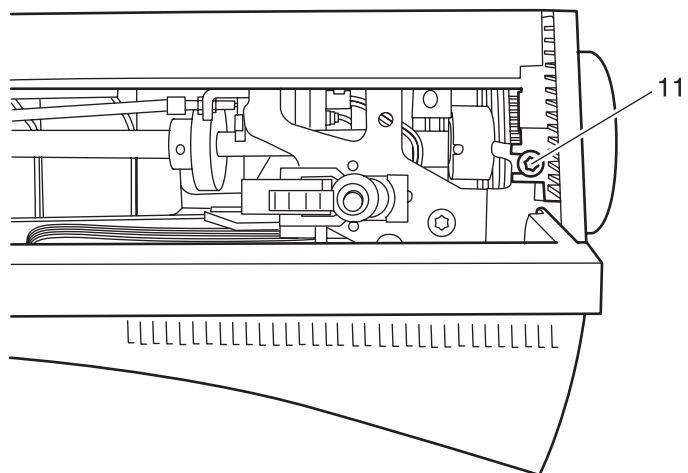

Fig. 99
- Fit the stand cover and secure with screw 11 (fig. 99).